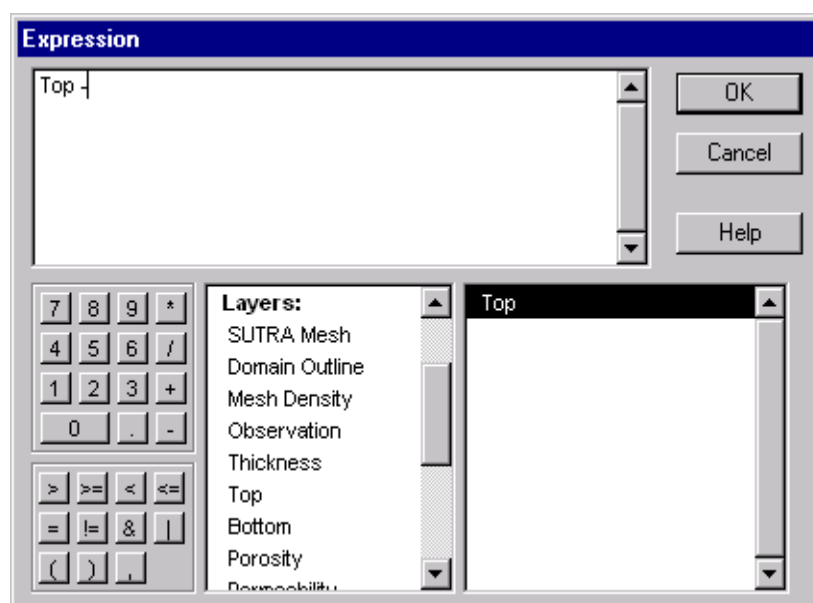

Figure 38. Constructing an Equation in the Expression Dialog, example
11. Insert a minus sign after “Top” (see Figure 38).